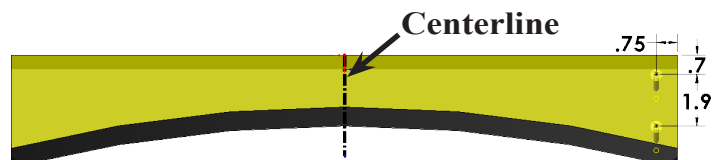

Fig. 30
Step 8. Click **Centerline**  (S) on the Sketch toolbar.
Step 9. Draw a vertical centerline down from Origin , Fig. 30.